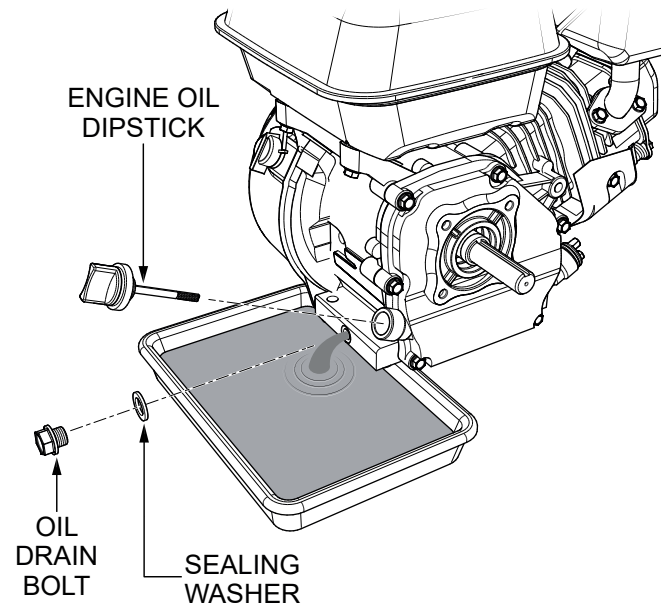

Figure 33. Draining The Engine Oil
1. Remove the **engine oil dipstick**, **oil drain bolt**, and **sealing washer** (Figure 33), and allow the oil to drain into a suitable container.